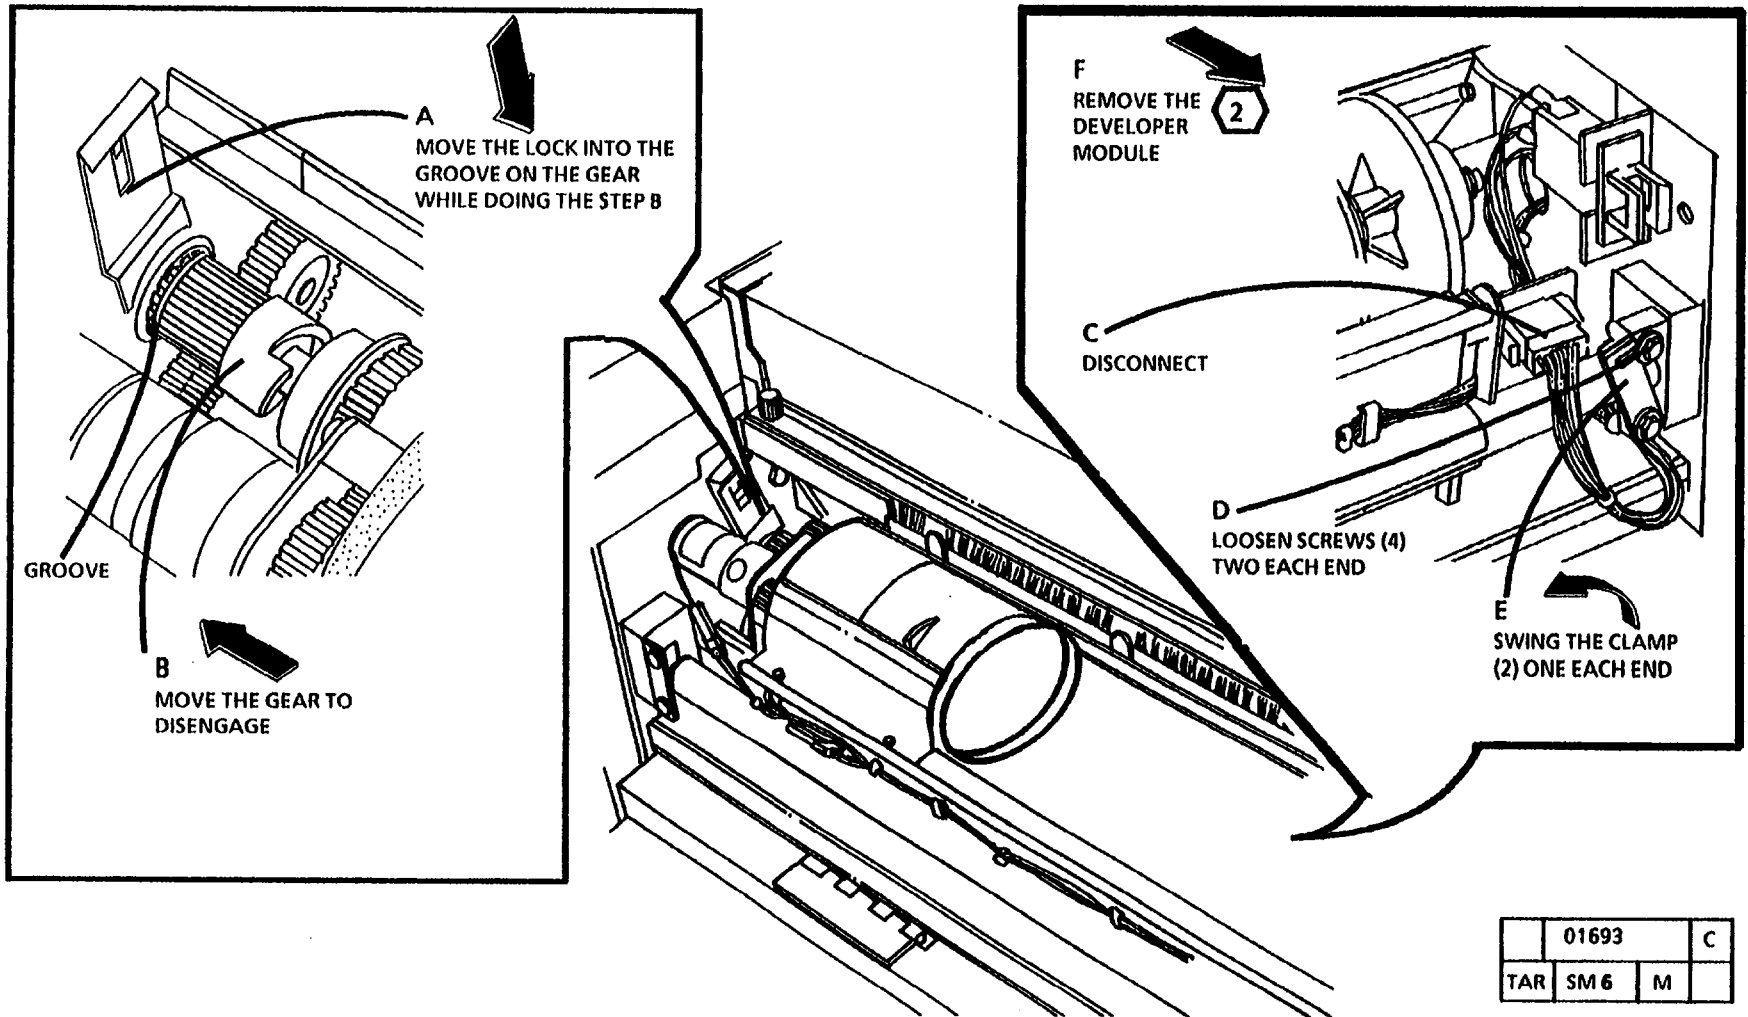

Figure 8. Remove the Developer Module
15. (Figure 8): Remove the Developer Module.